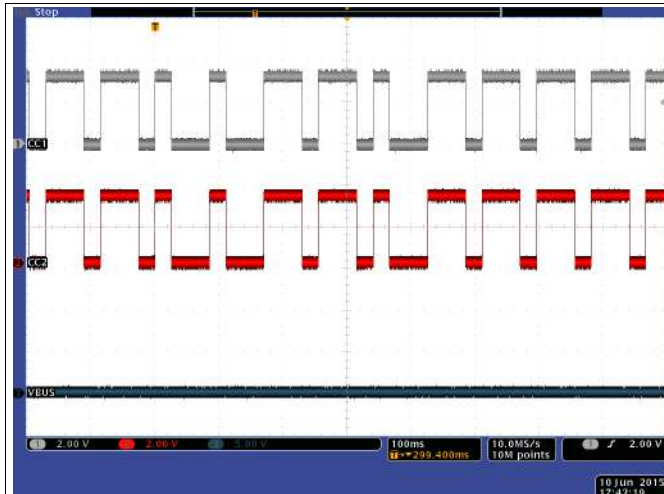

Figure 9. DRP CC1 and CC2 Toggling
- Verify the CC lines are toggling for dual-role port functionality (see Figure 9).